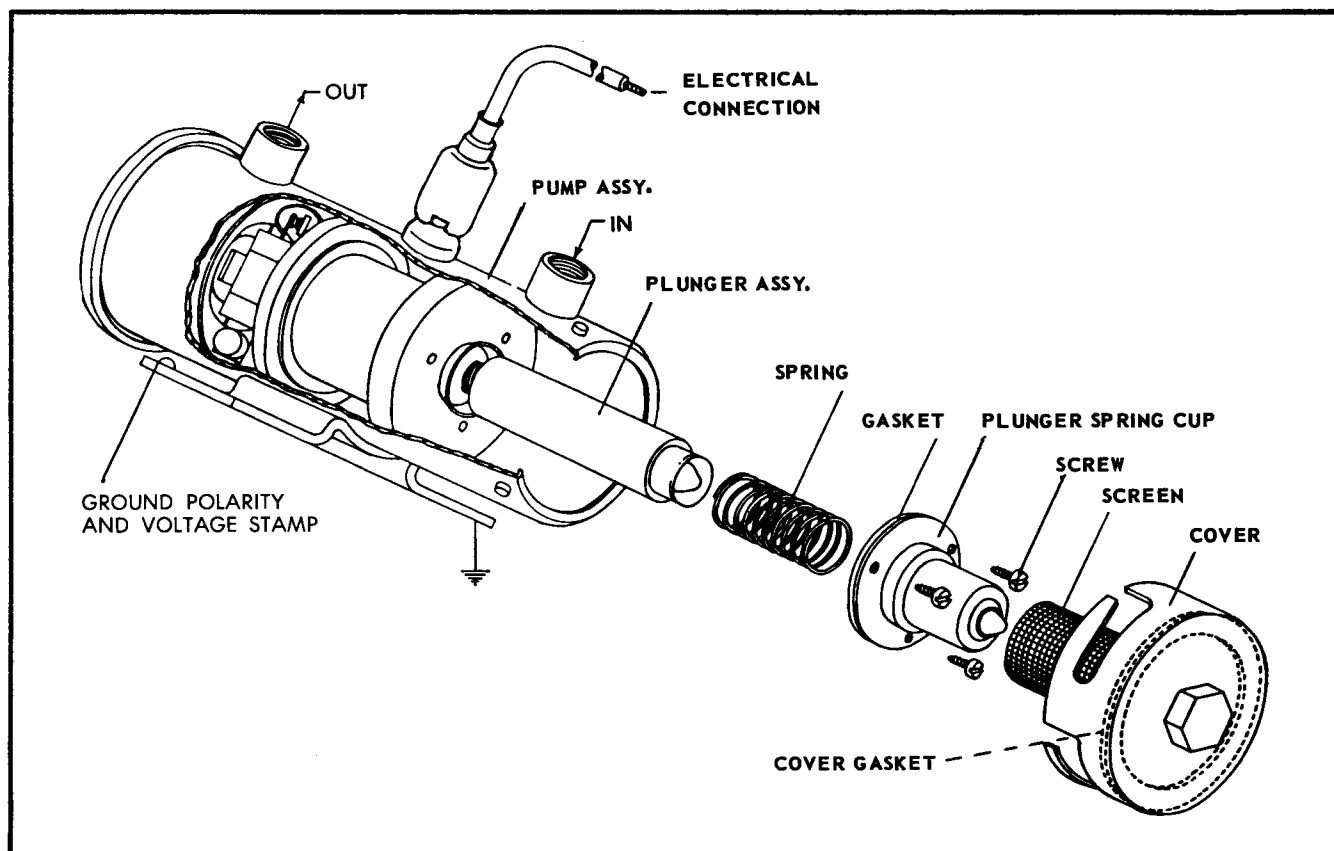

FIG. 8 - ELECTRIC FUEL PUMP
- d. Remove cover and screen as for cleaning screen, and remove three screws from plunger spring cup (refer to Fig. 8).
- h. Reassemble plunger (see Fig. 8). Check the fit of the plunger by slowly raising and lowering the plunger in the cylinder.
- i. Reassemble other parts (see Fig. 8), and reasonably tighten the screws to insure a good seal, but avoid too much force, which will distort the plunger cup or strip the threads. Assemble the screen, cover and gasket, making sure the gasket seals properly.